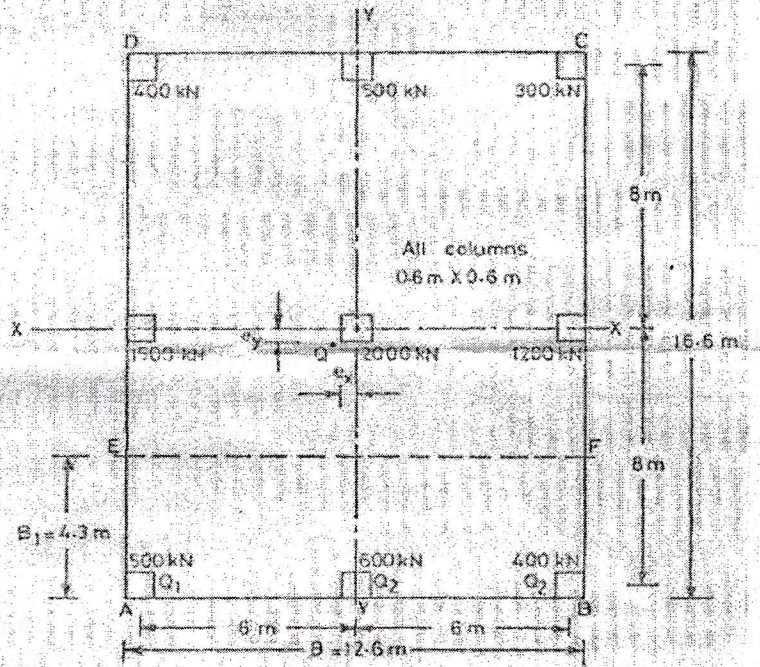

Figure 1
b) Plan of mat foundation with corresponding columns loads is shown in Figure 1. Calculate the soil pressure bellow all columns. All columns are of size $0.6 \text{ m} \times 0.6 \text{ m}$. [8]